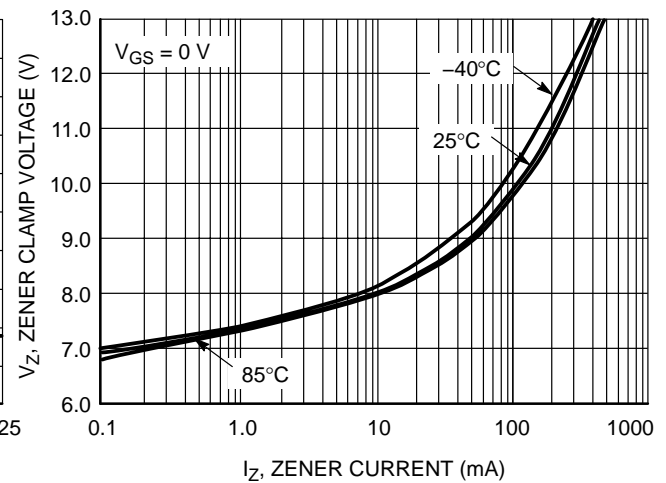

Figure 7. Zener Clamp Voltage vs. Zener Current
5. Using the max output current calculated in step 1, check Figure 7 to insure that the range of Zener clamp voltage over temperature will satisfy all system & EMI requirements.